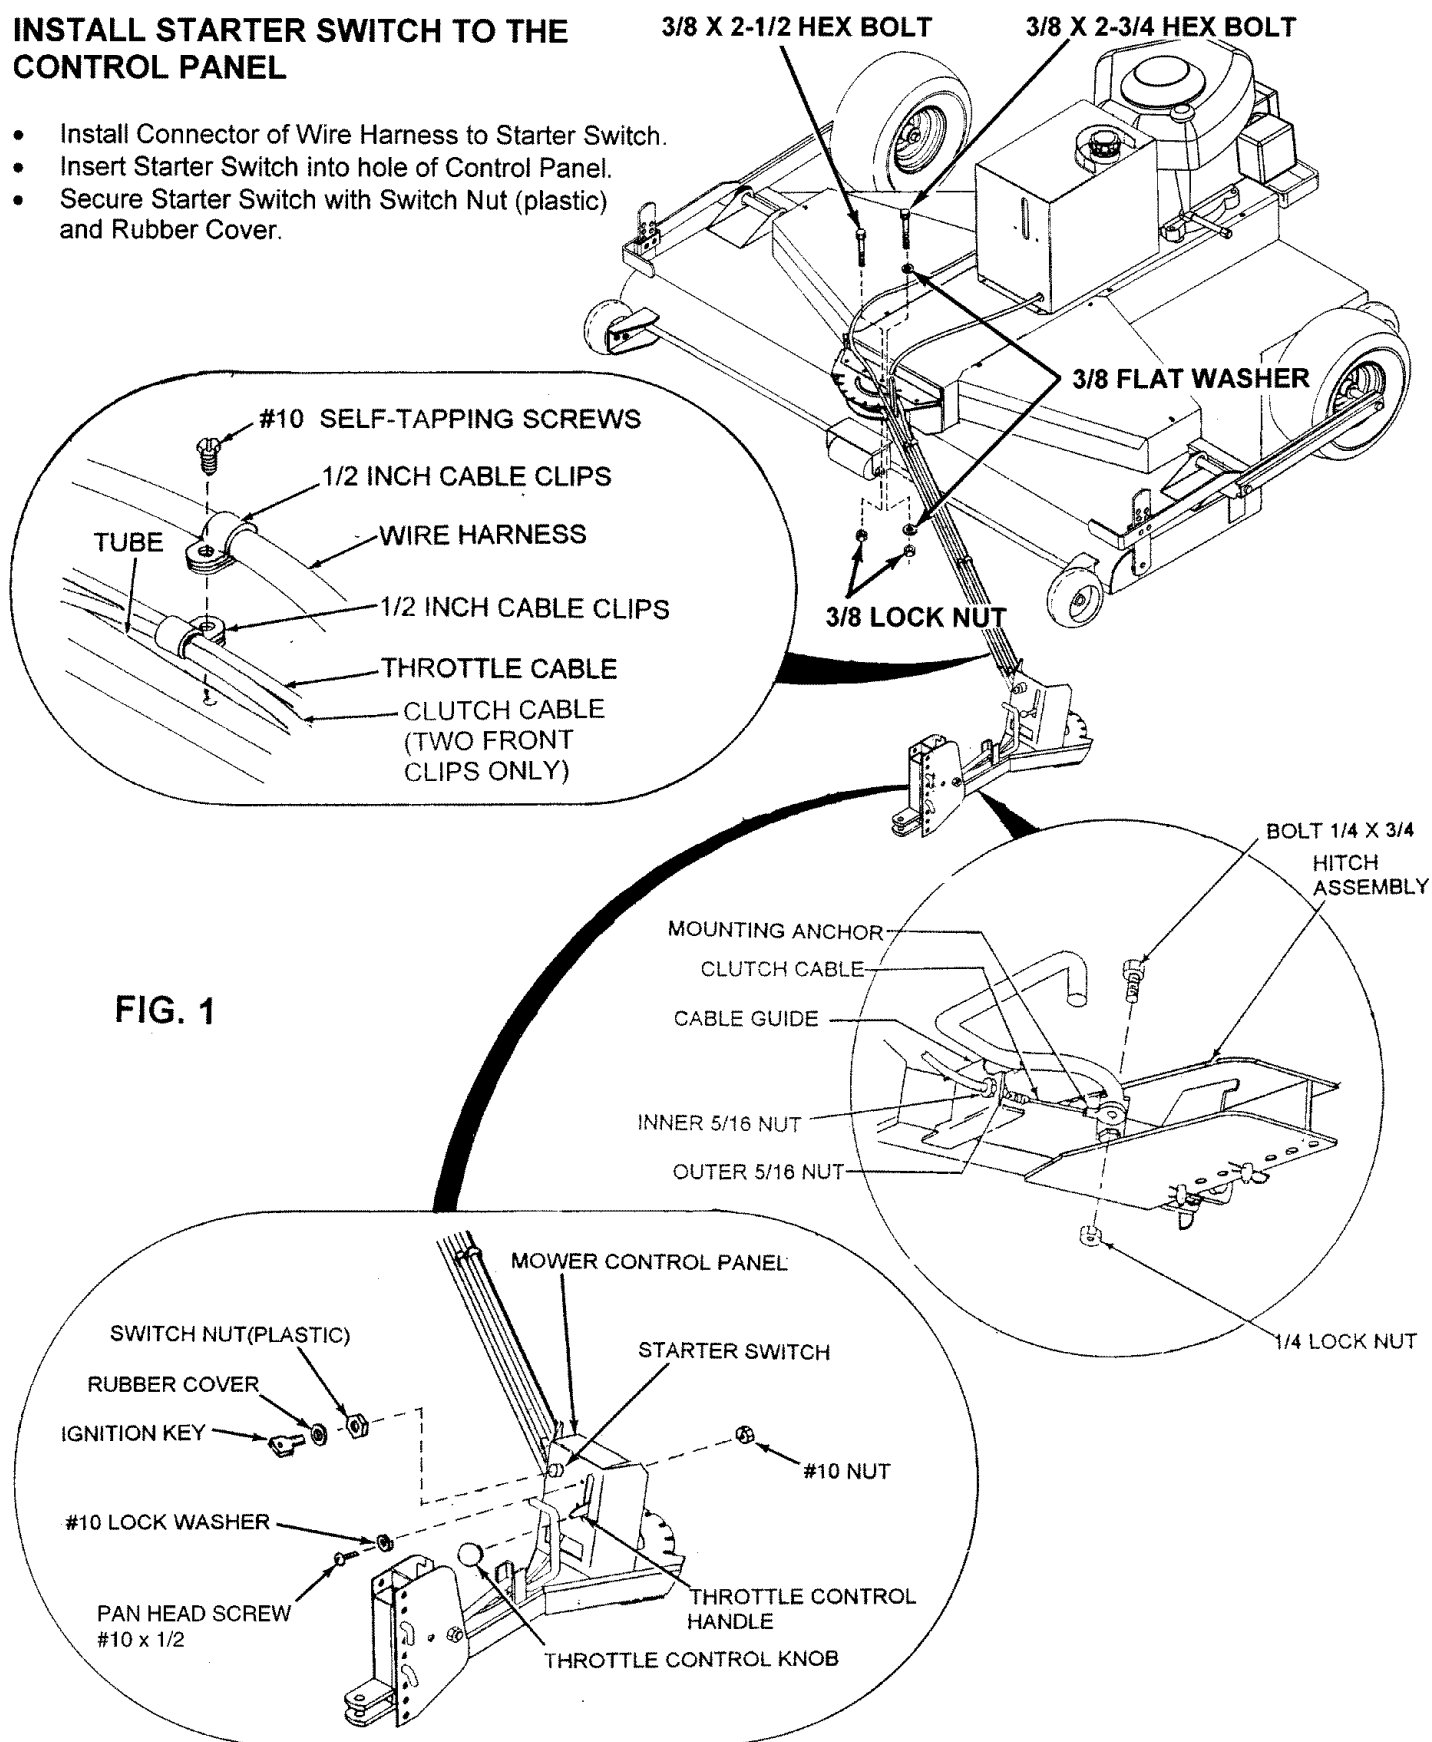

FIG. 1
- Slide tube of Tow Bar Hitch into rear quadrant and align holes. (See Fig. 1)
- Cut plastic tie then remove Wire Harness, Throttle Cable and Clutch Cable from bag and from around engine. (See Fig. 1)
- Remove outer 5/16 Nut from end of Clutch Cable Housing. (See Fig. 1)